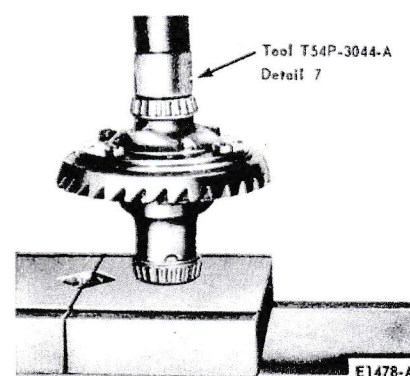

FIG. 24—Differential Bearing Installation
7. If the differential bearings have been removed, press them on as shown in Fig. 24.
1. Place the side gear and thrust washer in the differential case (Fig. 24). **Lubricate all parts liberally with axle lubricant during assembly.**
15. If the differential bearings have been removed press them on as shown in Fig. 24.